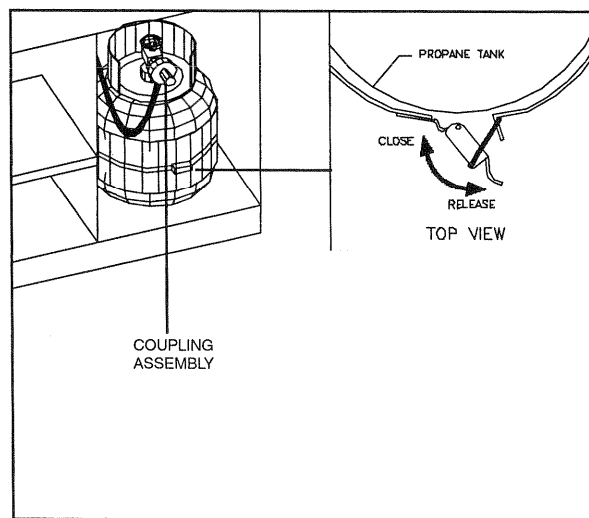

Figure 3. Gas Tank Placement
4. Place the gas cylinder in the space provided in the base and secure the tank with the tank strap latch assembly (See Figure 3.) Remove the protective caps from Cylinder Valve Outlet and Nipple, as necessary.